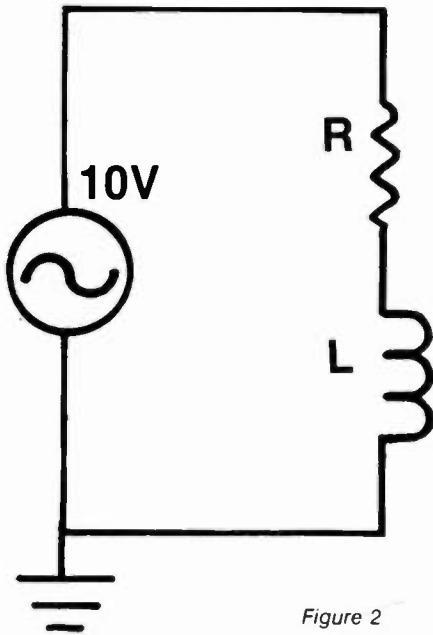

Figure 2
9. Using scope measurements in figure 2,  $X_L$  can be determined by  $E_L/I_L$ . This result is approximate because:
10. In the RL circuit of figure 2:
11. In figure 2 decreasing the generator frequency will:
12. Connecting a scope across L in figure 2 will display: